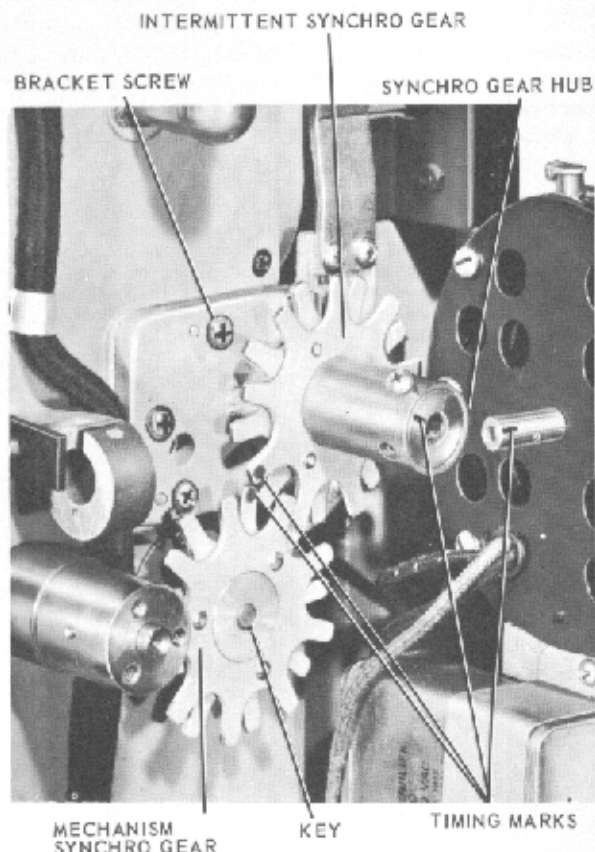
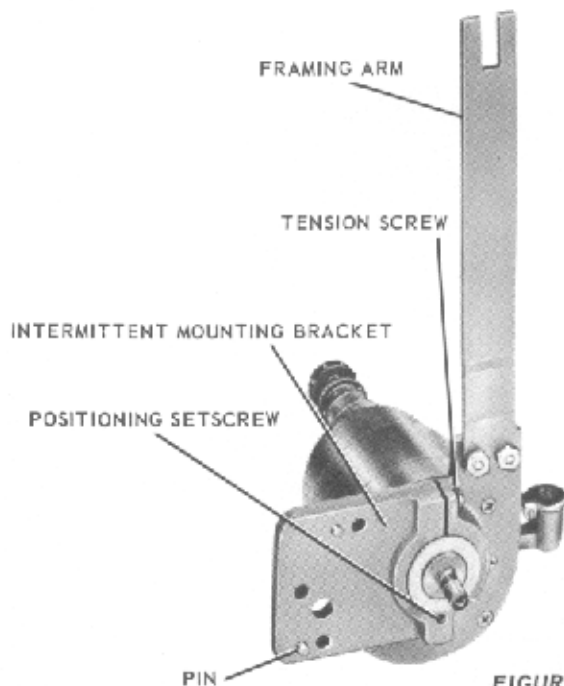

FIGURE 9
FIGURE 10
b. Loosen the two SETSCREWS in the hub of the INTERMITTENT SYNCHRO GEAR and pull the motor assembly away from the mechanism, figure 9. It may be necessary to wedge against the SYNCHRO GEAR HUB in order to free the intermittent motor.
c. Figure 9 shows the motor pulled back and the TIMING MARKS on the synchro gears. The end of the motor shaft is also marked for correct positioning during reassembly. (If these marks are missing, they should be added before the disassembly). Leads from the motor can be removed from the terminal strip to free the motor completely.
g. Remove the three BRACKET SCREWS, figure 9, and withdraw the entire assembly, as shown in figure 10. It may be necessary to pry the bracket slightly to break it loose. Be very careful not to damage the Intermittent sprocket as the assembly is withdrawn from the front trunnion. There may be a spacer between the front locating surface of the intermittent housing and the front trunnion. This is used, when necessary, to center the sprocket teeth in the film perforations.
c. Place the new cover plate in position on the casting, but, before drawing up the screws, insert the MECHANISM SYNCHRO GEAR SHAFT in the cover and check for clearance. Be careful not to damage the teeth of the gear as it is engaged with the vertical drive shaft. Clearance with the cover plate should be uniform so that the flange of the quill bearing does not interfere. Tighten all screws on the cover plate. Remove the INTERMITTENT MOUNTING BRACKET, figure 10, from the intermittent, loosening the TENSION SCREW and pulling the bracket from the intermittent housing. Remove the two PINS in the bracket.